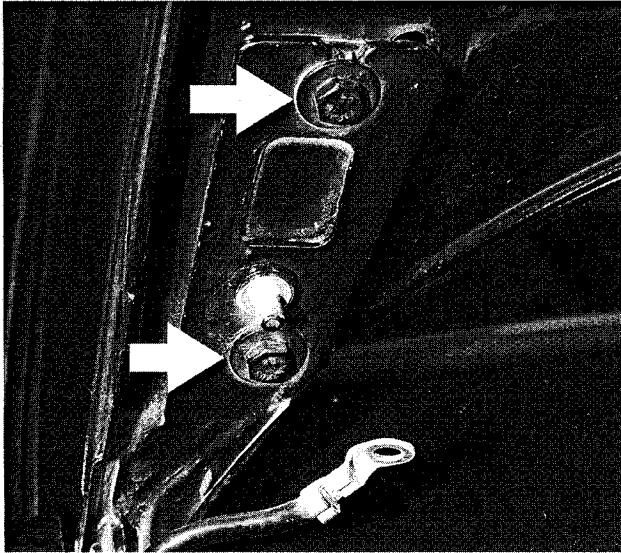

Fig. 8. Hood hinge bolts (arrows). Right side shown.
4. With aid of assistant, remove hood hinge bolts from left and right sides of hood. Lift hood off carefully. See Fig. 8.